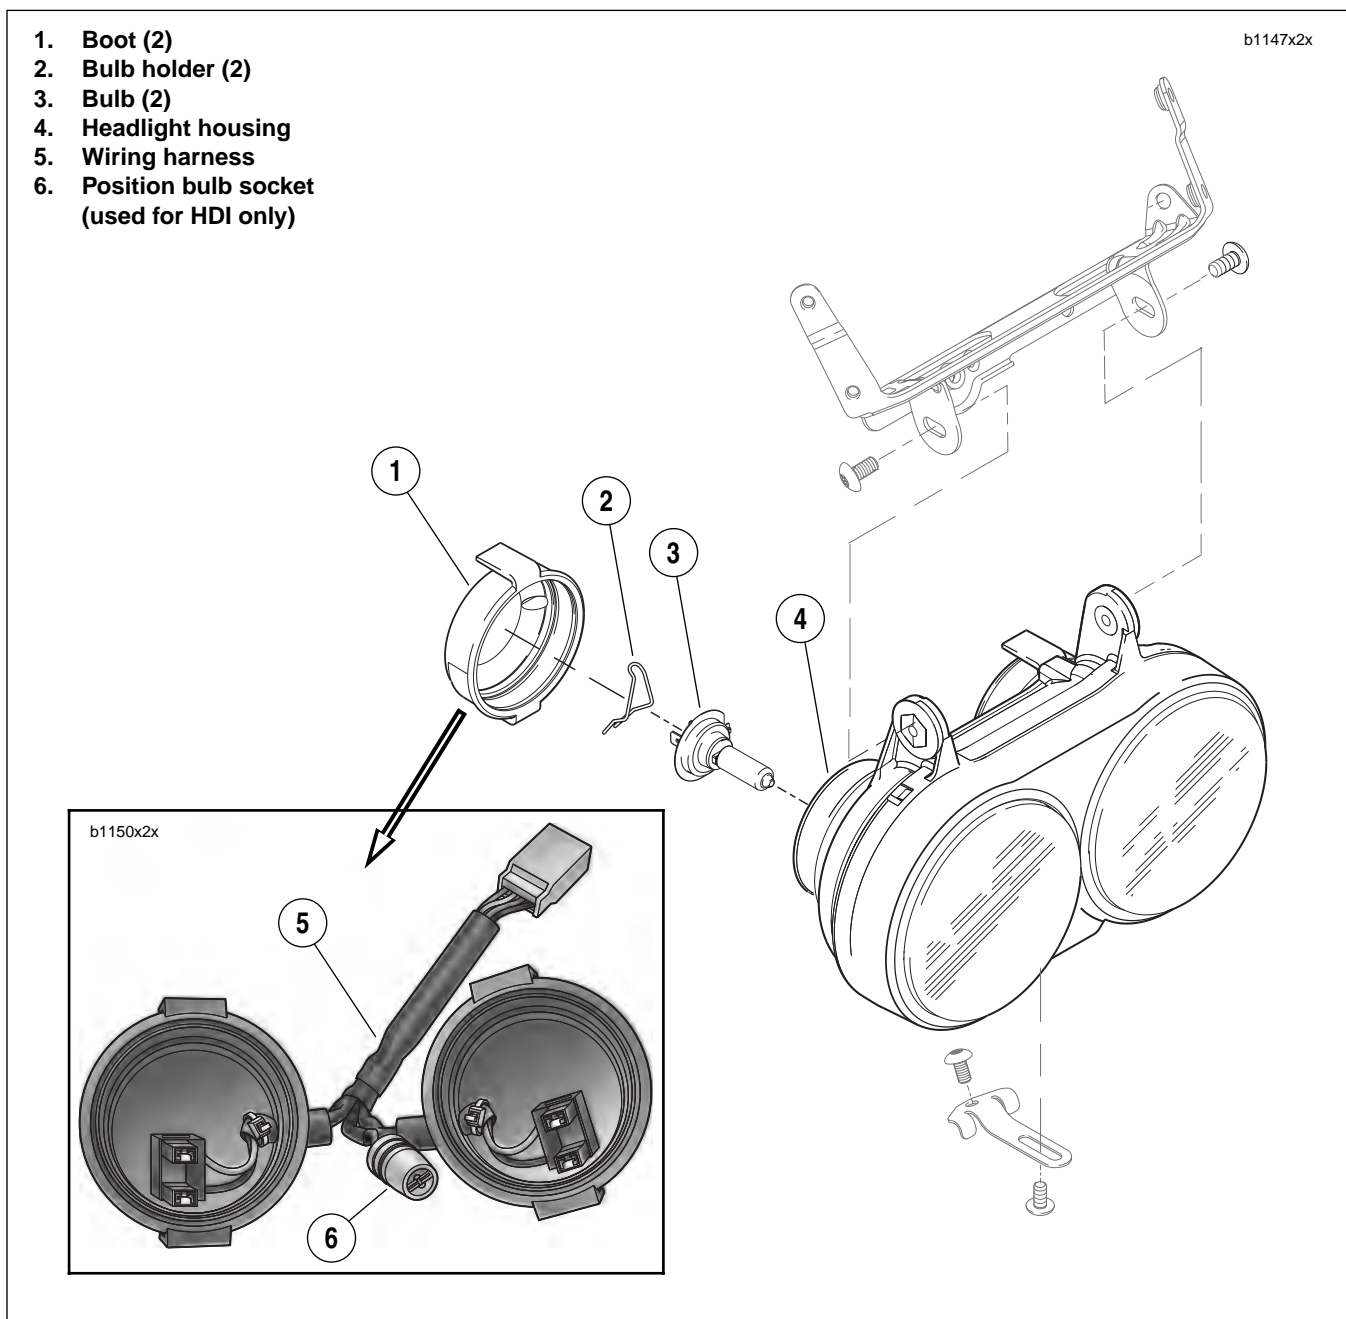

Figure 2-106. Headlight Assembly
1. See Figure 2-106. Remove rubber boots (1) from rear of headlight housing.
2. Disconnect wiring harness (5) from headlight bulbs (3) and remove along with position bulb socket (6).
3. Remove bulb holders (2).
4. Remove headlight bulbs (3) from back of headlight housing (4).
1. See Figure 2-106. Align and install headlight bulbs (3) into back of headlight housing (4).